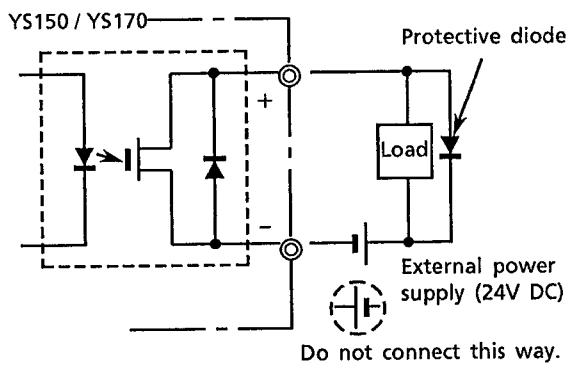

Figure 2.8 Connection Using the Status Output
- Be sure to connect a protective diode (surge absorber) in parallel with the load when driving an inductive load such as a relay (see Figure 2.8).
- To connect the power supply which is to be used to drive the load, match the polarity of the power supply with the polarity of the contact output (see also Figure 2.8).